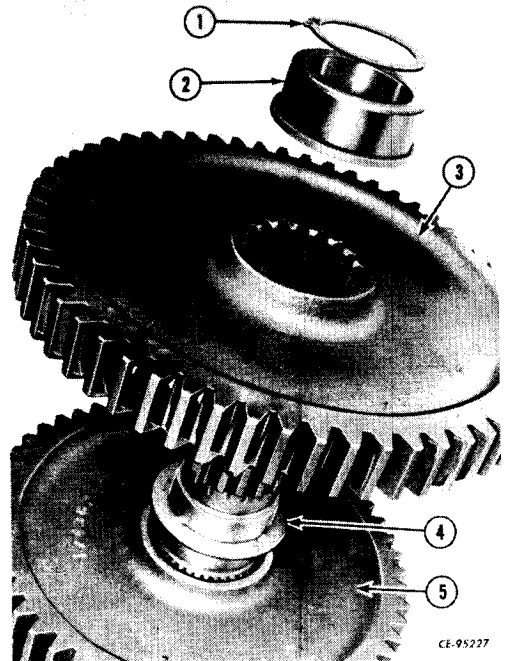
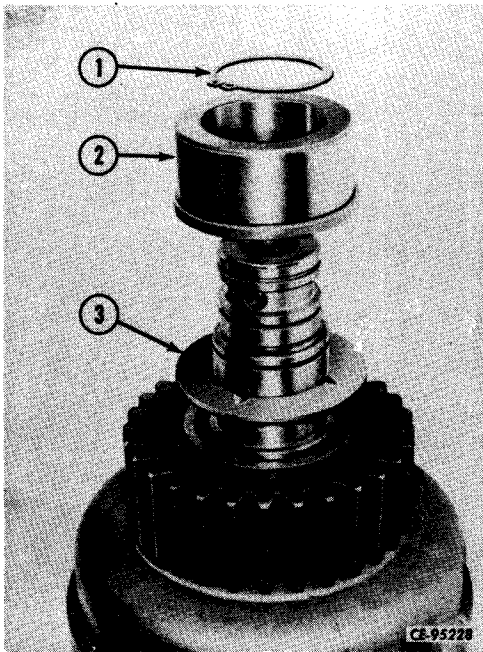

Figure 4-126
Figure 4-127
After gear and cup (5, Fig. 4-126) installation, position a thin bronze thrust washer (4) on splined end of shaft against cup gear (5). Install
It will be noted (Figs. 4-127, 4-128) that while assembly procedures for both types of clutch
packs is identical at the oil inlet end of shaft, the type of thrust washer (3) varies. The range clutch pack (Fig. 4-126) uses a thin bronze washer while the directional pack (Fig. 4-127) uses a thick, beveled washer. This beveled washer is installed with the bevel facing the inner bearing race (2).